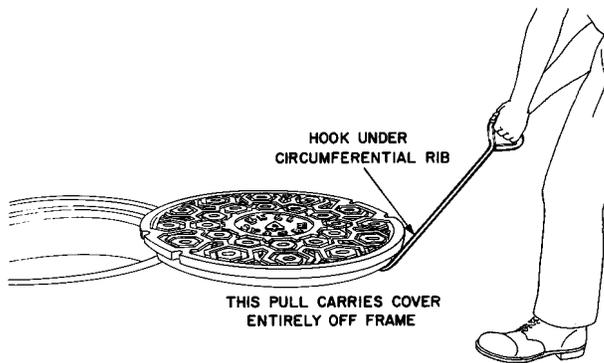

Fig. 4—Sliding Cover Clear of Frame
- (4) Slide the cover clear of the frame (Fig. 4) being cautious that all lifting and pulling is done with the arm and leg muscles. At no time should any lifting or sliding of a manhole cover be attempted solely with the use of back muscles.